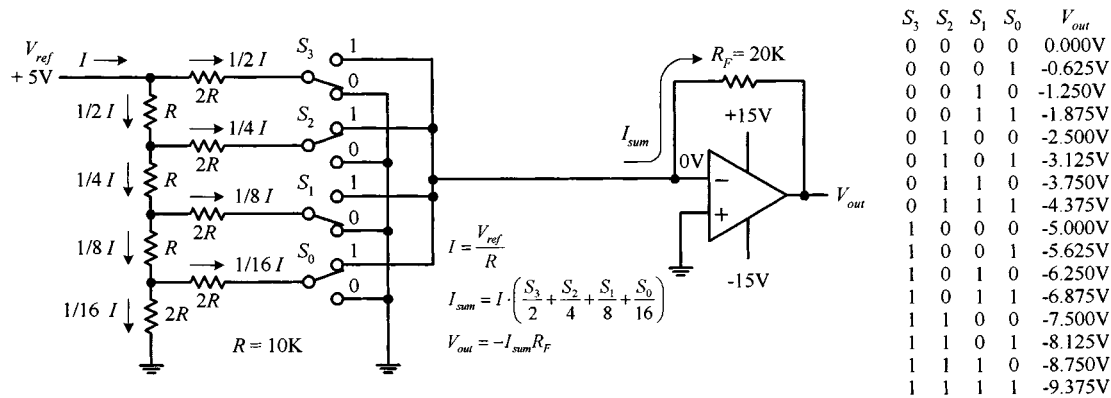

FIGURE H.7
that we need only two resistor values, R and $2R$. Figure H.7 shows a simple 4-bit $R/2R$ DAC. For now, assume that the switches are digitally controlled (in real DACs they are replaced with transistors).
The trick to understanding how the $R/2R$ ladder works is realizing that the current drawn through any one switch is always the same, no matter if it is thrown up or thrown down. If a switch is thrown down, current will flow through the switch into ground (0 V). If a switch is thrown up, current will flow toward virtual ground—located at the op amp's inverting input (recall that if the noninverting input of an op amp is set to 0 V, the op amp will make the inverting input 0 V, via negative feedback). Once you realize that the current through any given switch is always constant, you can figure that the total current (I) supplied by V_{ref} will be constant as well. Once you've got that, you figure out what fractions of the total current passes through each of the branches within the $R/2R$ network using simple circuit analysis. Figure H.7 shows that $1/2 I$ passes through S_3 (MSB switch), $1/4 I$ through S_2 , $1/8 I$ through S_1 , and $1/16 I$ through S_0 (LSB switch). If you're interested in how that was figured out, the following circuit reduction should help.
determined by $V_{\text{out}} = -I_{\text{sum}}R_F = -(156.25 \mu\text{A})(20 \text{ k}\Omega) = -3.125 \text{ V}$. The formulas and the table in Fig. H.7 show the other possible binary / analog combinations.